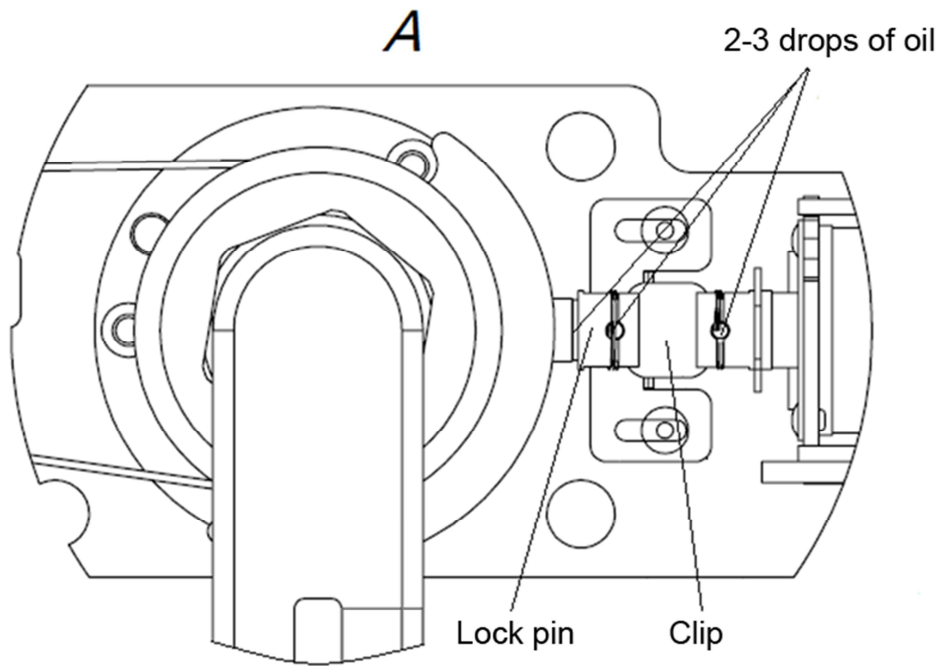

Fig. 6 Speedgate housing
5.2. Clips and lock pin between the lock and actuating device should be lubricated (Fig. 6, type A).